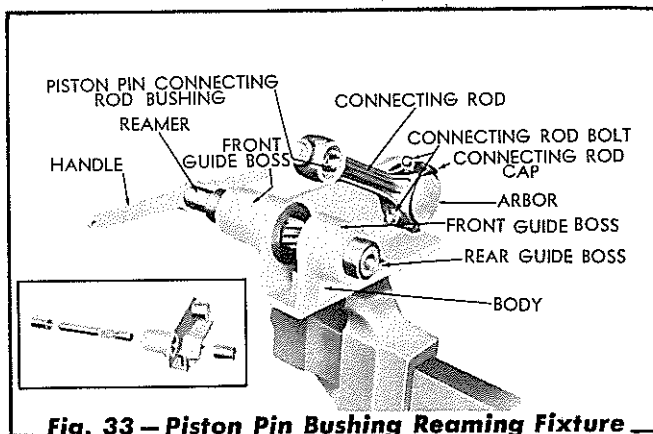

Fig. 33 – Piston Pin Bushing Reaming Fixture
3. After the bushings have been installed, they must be reamed. The special reaming fixture and reamer shown in Fig. 33 must be used to insure proper alignment of the piston with the rod and to obtain proper clearance of the piston pin with the bushings.